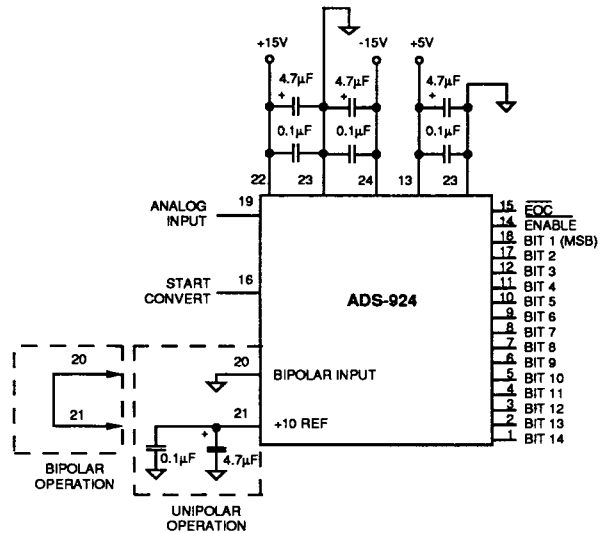

Figure 3. Typical Input Connections for the ADS-924
1. Applications which are unaffected by endpoint errors or remove them through software will use the typical connections shown in Figure 3. Remove system errors or adjust the small initial errors of the ADS-924 to zero using the optional external circuitry shown in Figure 4. The external adjustment circuit has no effect on the throughput rate.
1. Connect the converter per Figure 3, Figure 4, and Table 2 for the appropriate full-scale range (FSR). Apply a pulse of 200 nanoseconds minimum to the START CONVERT input (pin 16) at a rate of 250 KHz. This rate is chosen to reduce flicker if LED's are used on the outputs for calibration purposes.